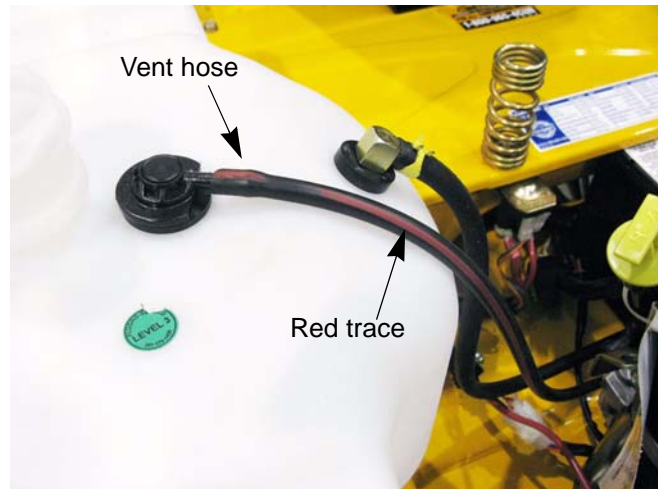

Figure 2.13
2. Disconnect the vent hose. See Figure 2.13.